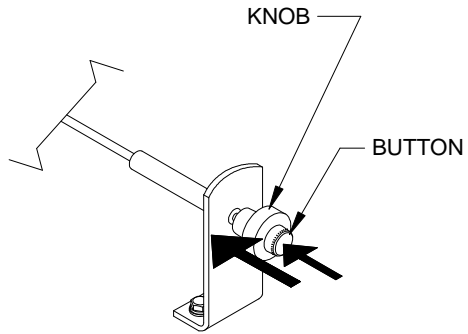

FIGURE 2-16: RE-ENGAGE PLATFORM TO ENCLOSURE
- 5) Refer to **Figure 2-16**. When the platform is fully stowed, lock it in place by pushing the platform release button and push the knob inward. Release the button while holding the knob in. Verify that platform is locked by attempting to pull it out of the enclosure; it must not move.